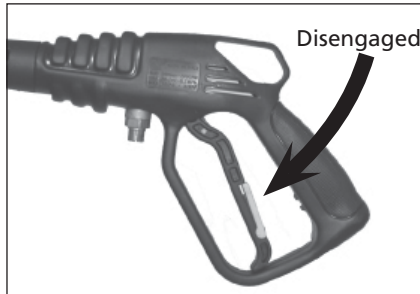

Figure 11 - Trigger unlocked
7. Start the engine. Unlock the trigger safety latch on the gun (See Figure 11). Grasp the starter rope and brace one foot on the chassis. Point the gun in a safe direction. While squeezing the trigger on the gun, pull the starter rope rapidly and firmly (See Figure 12). Continue holding the rope as it returns. Repeat these steps until the engine starts.